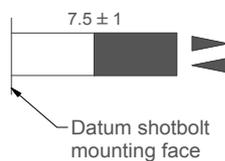

Fig. 5 N/C positive break switch
- Positive break (forced contact) switch Max 250V AC 10A , 0 - 15V DC 10A, 15 - 30V DC 7A see Fig 5.